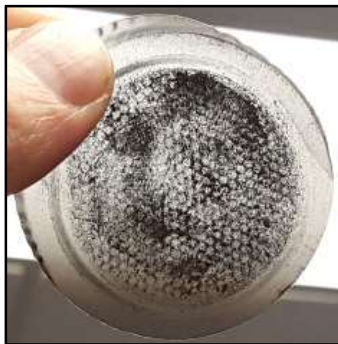
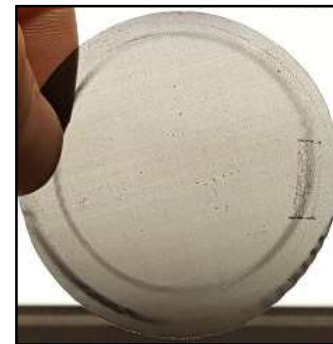

Figure 19: Soiled Mesh
Figure 20: Clean Mesh
- To clean the mesh, wipe the mesh covering with a clean, damp cloth. If the mesh is heavily soiled and/or if the sensor is not reporting height readings, remove the blue clip holding the mesh in place. Wash the mesh with clean water using a clean cloth and allow it to dry. Avoid creasing or crumpling the mesh when cleaning. See Figure 19 and Figure 20 for examples of soiled and clean mesh. The soiling can best be seen when holding the mesh up to a light source.